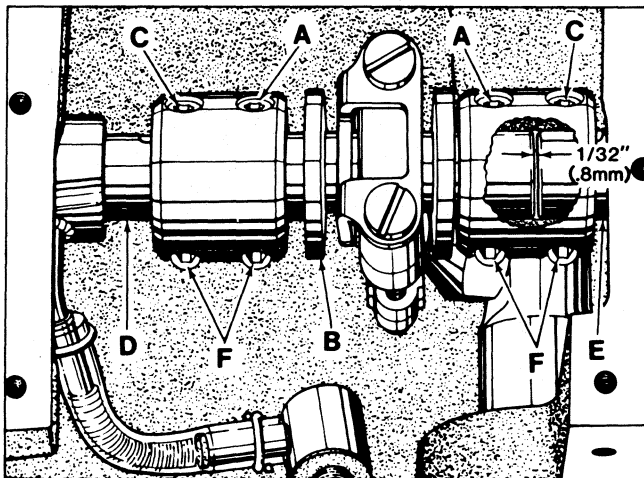
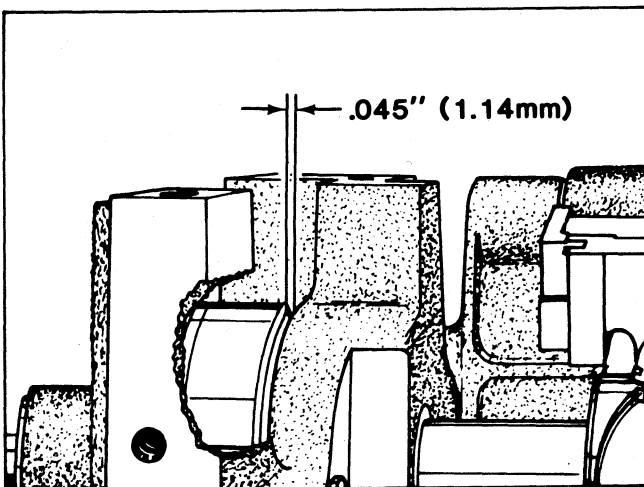

Fig. 19
Fig. 20
As viewed looking down from rear of machine, spot screws (A, Fig. 19) in the couplings must align with the spots in the looper drive crank (B) and set screws (C) must align with the flats on crankshaft (D) and mainshaft (E). Mainshaft must be positioned laterally with .045 inch (1.14mm) clearance between the right side of its head and the bed casting as shown in Fig. 20.
Looper drive Crank (B, Fig. 19) must be positioned laterally with 1/32 inch (.8mm) clearance between it and mainshaft (E) as shown in Fig. 19. Once these settings are made, it is very important that the couplings are tightened in the following sequence for best performance.